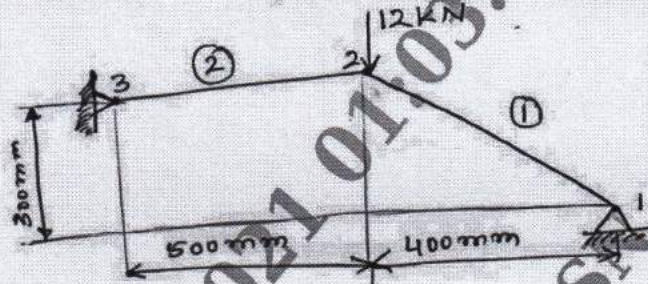

Fig. Q6 (a)
- 6 a. For the two bar truss shown in Fig. Q6 (a), determine the nodal displacement, stresses in each element and support reactions. Take $E = 200 \text{ GPa}$, $A_1 = A_2 = 200 \text{ mm}^2$ (12 Marks)